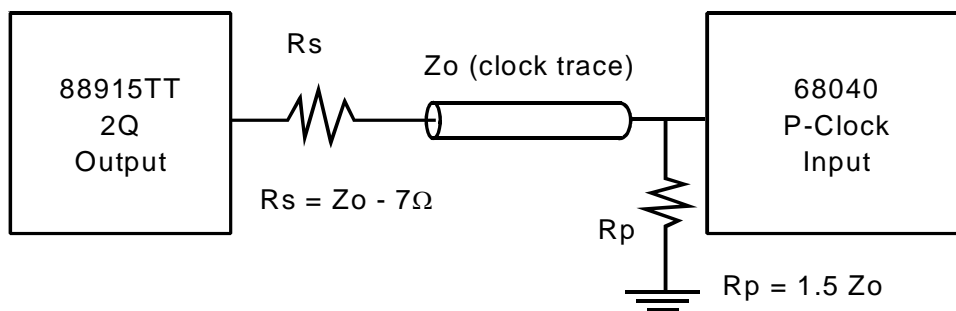

Figure 1. MC68040 P-Clock Input Termination Scheme
- These two specs ( tRISE/FALL and tPULSEWIDTH 2Q output) guarantee that the FCT88915TT meets 68040 P-Clock input specification. For these two specs to be guaranteed by IDT, the termination scheme shown in Figure 1 must be used: